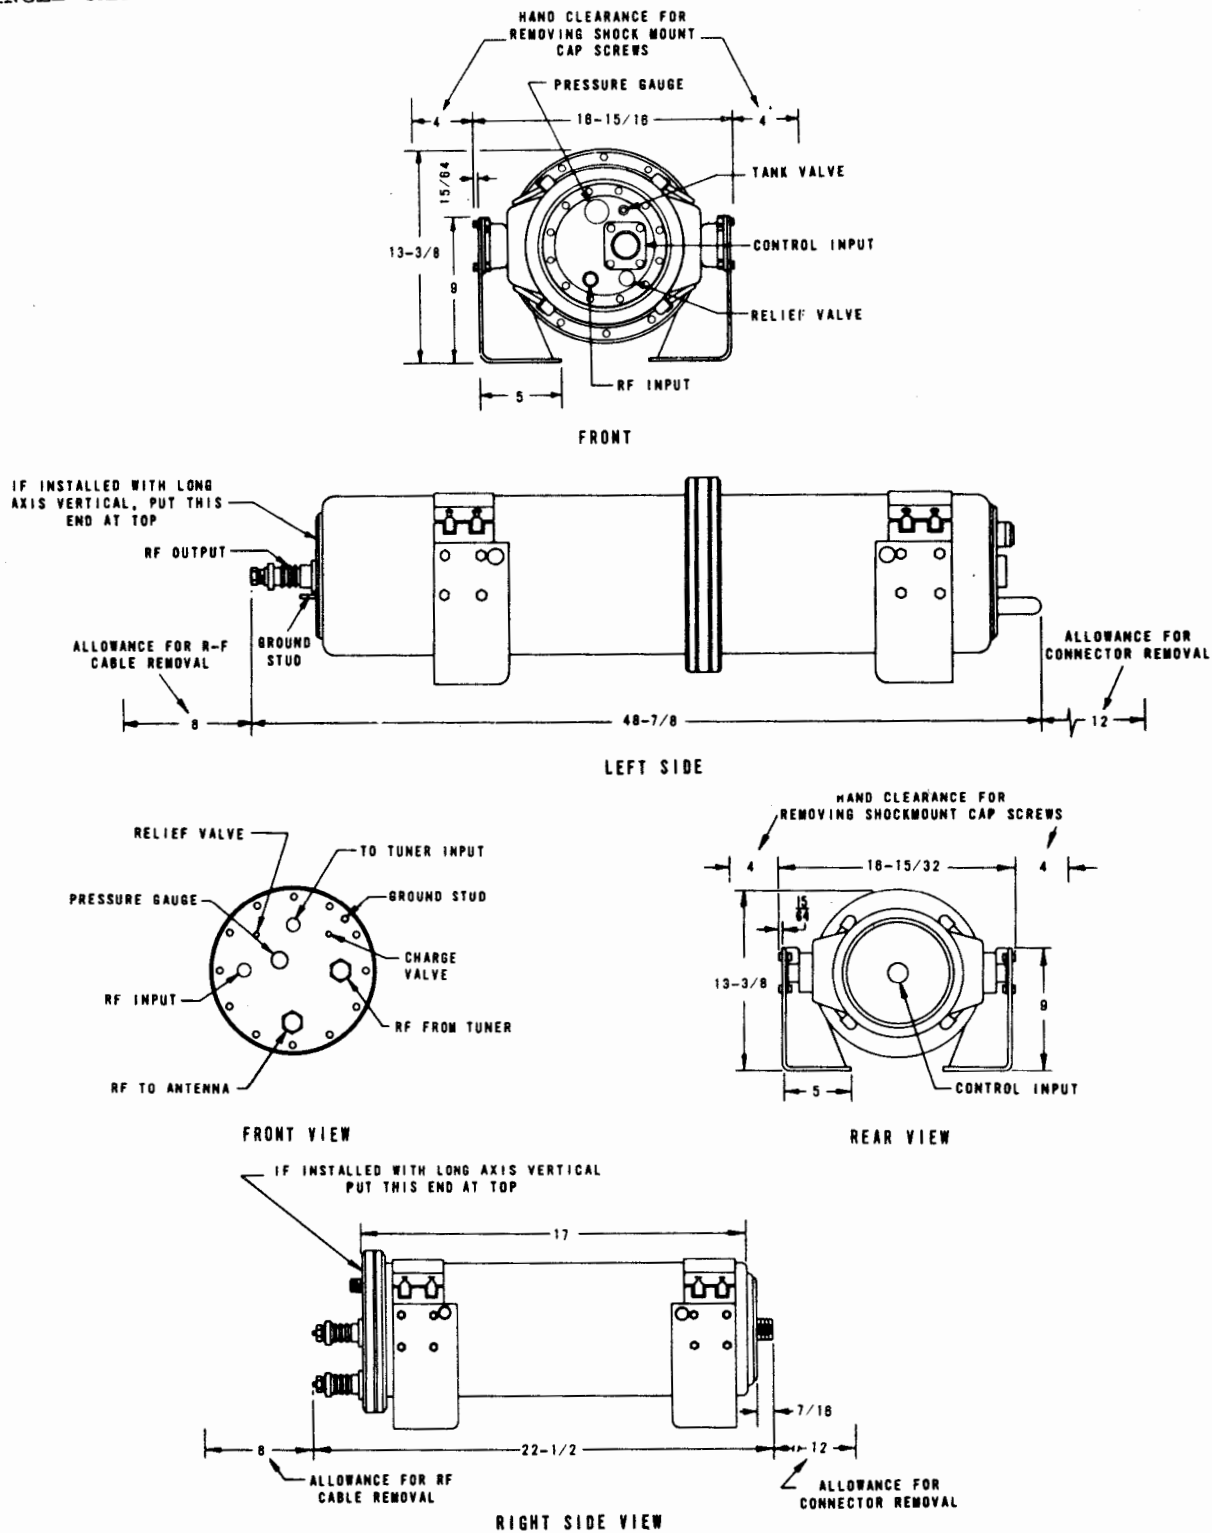

Figure 6-21 RF Tuner TN-345/WRT-1 and Antenna Coupler CU-760/WRT-1
b. PHYSICAL CONFIGURATION. - See Figure 6-21.